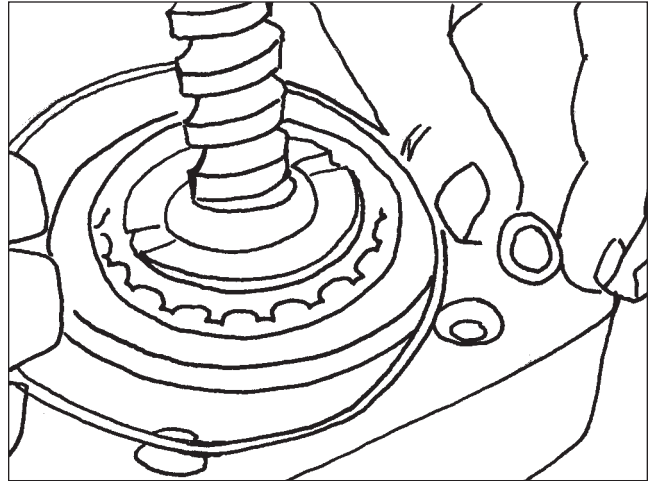

Figure 82
28. Install a new tetra seal and seal ring (Figure 82).